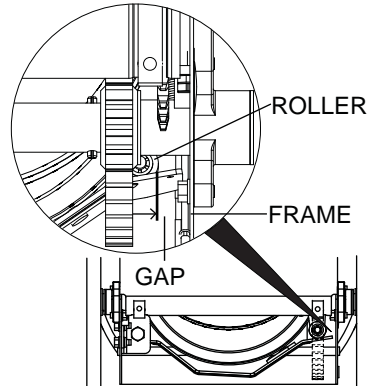

Figure 27
(Figure 27)
2. With the clutch lever engaged, check the clearance between the frame and plastic roller on the lower end of the attachment idler arm. See Figure 27.